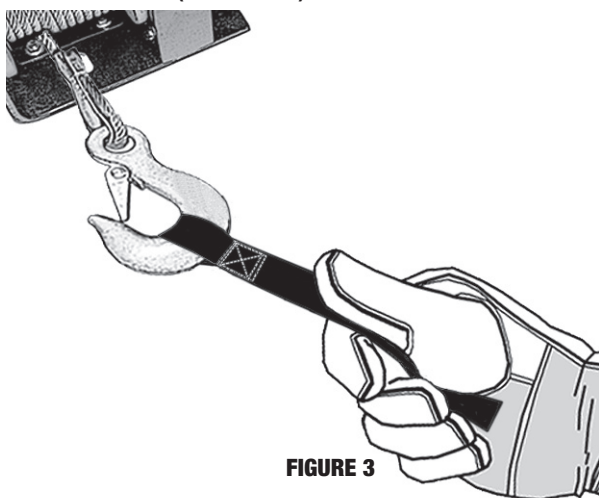

FIGURE 3
Step 7 You are now ready to winch. Practice winching operations by freespooling cable out and winching in under no load. Plan some tests in advance and learn to watch and listen. Recognize the sound of a light steady pull, a heavy pull and sounds caused by load jerking or shifting. You will gain confidence. **ALWAYS WEAR SAFETY GLASSES, LEATHER GLOVES AND USE THE HAND SAVER STRAP (FIGURE 3).**
- 1. KEEP A TIGHTLY WOUND WIRE ROPE DRUM.** Keep the wire rope tightly and evenly wound on the drum all the time. Do not allow the wire rope to become loosely wound. A loosely wound drum allows a wire rope under load to work its way down into the layers of wire rope on the drum. When this happens, the wire rope may become wedged within the body of the windings damaging the wire rope. A good practice is to rewind the wire rope under tension after each use. Apply tension using hand saver strap (**FIGURE 3**) and ALWAYS wear gloves.